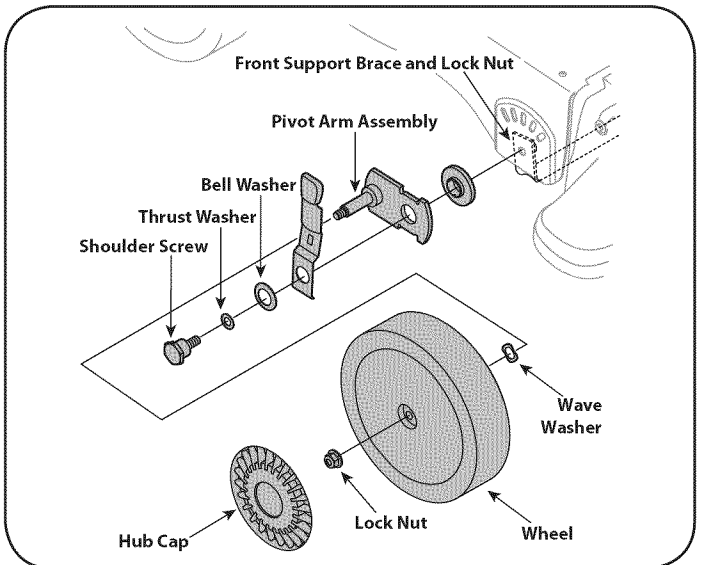

Figure 27
4. Remove the front hubcaps, flange lock nuts, front wheels, and wave washers that attach to the pivot arm assemblies. See Figure 27.